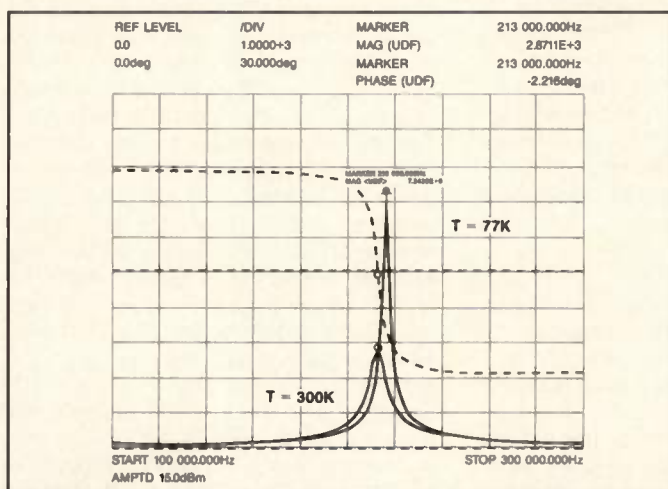

Figure 1. Q-increase of 100 μ H inductor by cooling.
temperatures. For example, the electrical DC resistivities of ideally pure elements such as aluminum and copper are reduced by factors of nearly 11 and 8 respectively, if these materials are cooled down from 295 K to 80 K (4). The improvement is less but not negligible at higher frequencies where skin effect is of importance. Figure 1 shows the parallel resonance impedance of a 100 μ H copper wire coil and an 8200 pF high-Q mica capacitor at 300 K (room) and 77 K (liquid nitrogen). The parallel resistance increases from 2.87 kohms to 7.24 kohms if cooled. This corresponds to a Q enhancement by a factor of 2.5. The coil was just dipped into a bath of liquid nitrogen contained in a styrofoam box. A dewar cannot be used for this measurement because the metal would change the properties of the coil due to induced eddy currents. Similar Q improvement factors were obtained at higher frequencies with NMR receive coils (64, 26 MHz). In Figure 2 the insertion loss (IL) reduction by liquid nitrogen cooling is demonstrated for a five-cavity mobile radio helical filter with a center frequency of 160 MHz. The loss decreases from 4.96 dB to 2.635 dB, a 2.32 dB improvement and a significant